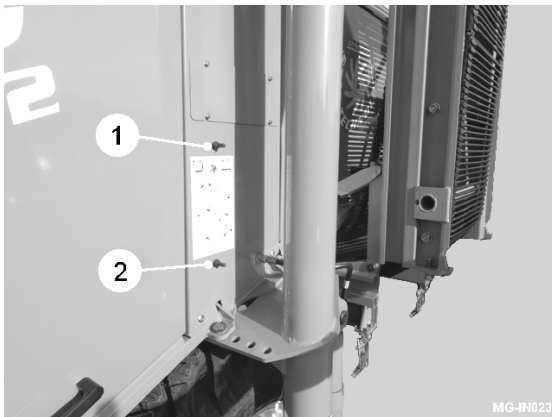
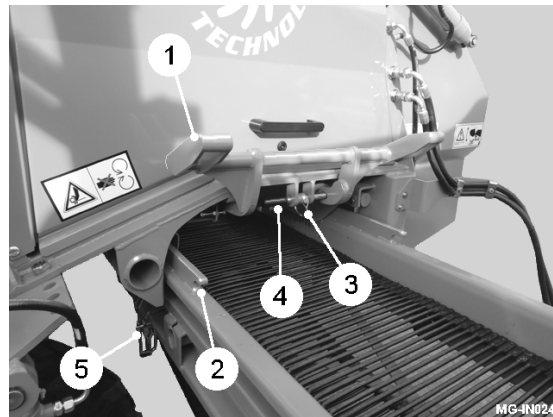

Fig 11a
Fig 11b
1. Using the two external switches (item 1 & 2, fig 11a) on the LH side of the machine, carefully lower the cross conveyor. Both switches need to be actuated and held to operate.
2. Once horizontal, disengage the latch arm (item 1, fig 11b) from the hook plate (item 2, fig 11b).
3. Raise the latch arm (item 1, fig 11b) clear of the conveyor as shown.
4. Remove the linchpin (item 3, fig 11b) and slide the support pin (item 4, fig 11b) into the hole in the latch arm. Refit the linchpin.
5. Finally, lock the conveyor with the bottom catches (item 5, fig 11b).
1. Unlock the conveyor bottom catches (item 5, fig 11b).
2. Remove the linchpin (item 3, fig 11b) and slide the support pin (item 4, fig 11b) out to release the latch arm (item 1, fig 11b). Refit the linchpin.
Always refit the linchpin to hold the support pin (item 4, fig 11b) away from the latch arm (item 1, fig 11b). Failure to do this could result in serious damage to the conveyor when folding.
3. Lower the latch arm (item 1, fig 11b) onto the conveyor.
4. Using the two external switches (item 1 & 2, fig 11a), move the cross conveyor to engage the latch arm (item 1, fig 11b) into the hook plate (item 2, fig 11b).